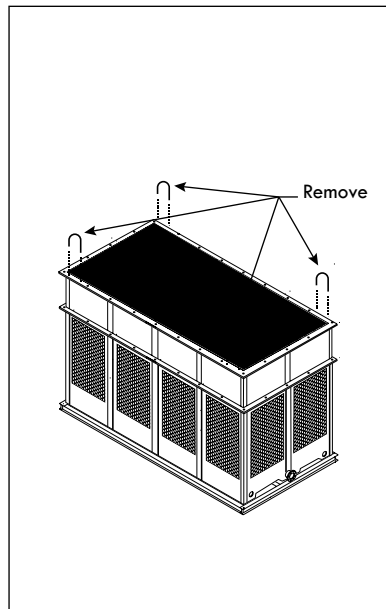
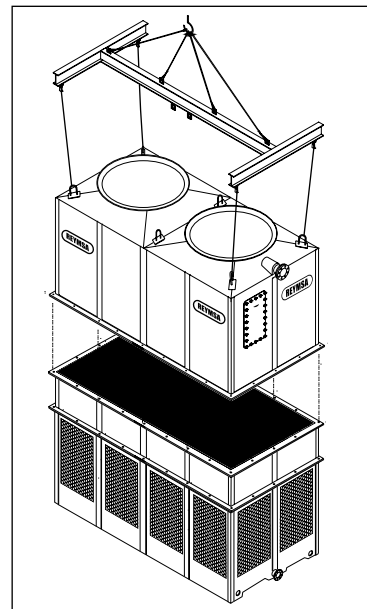

Figure A-59: Removing U-bolts from Lower Body section of a Modular Tower (RTM-D or RTPM-D)
Figure A-60: Upper body section assemble for a Modular Tower (RTM-D or RTPM-D)
L. **Only for RTM-D or RTPM-D models:** Remove U-bolts from Lower Body section before installing the next section (see Figure A-59). Place Upper Body section #1 on top of Lower Body section #1, making sure that the bolt holes are aligned (see Figure A-60). Bolt down and secure the horizontal flanges with the stainless steel nut and bolt sets supplied by REYMSA.